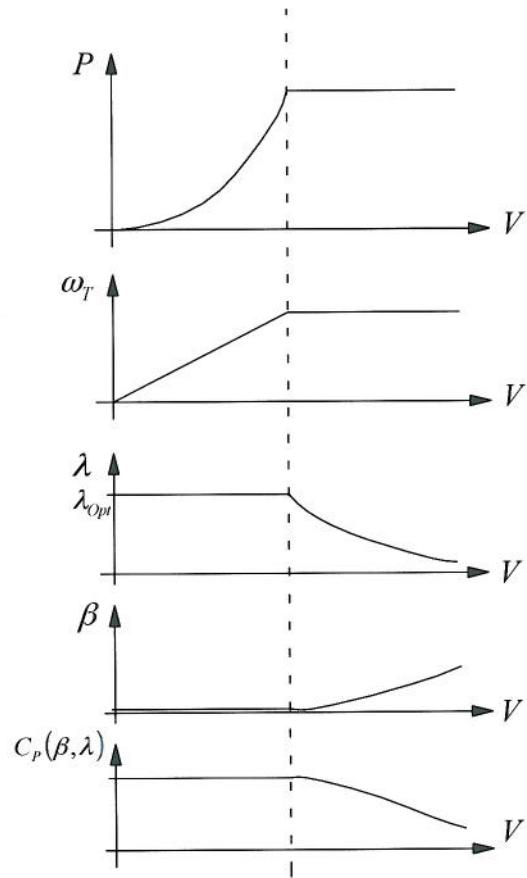

Figure 1.2 Variation under turbine control action of power, rotor speed, tip speed ratio, pitch angle and power coefficient as function of wind speed.
- b) Figure 1.2 illustrates how various variables of a turbine system change with wind speed under the actions of a typical wind turbine control system.